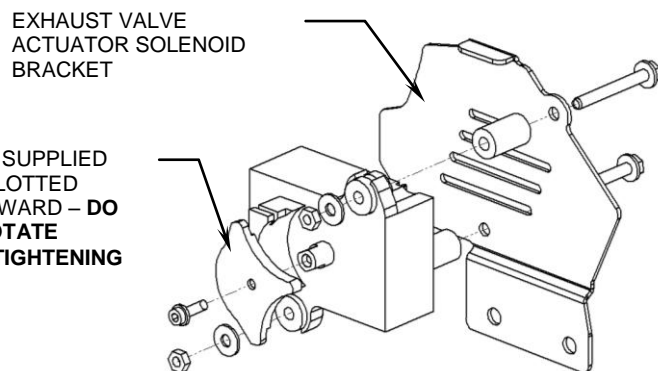

**FIGURE 1: EXHAUST REMOVED FROM M109**
5. The exhaust valve actuator solenoid must now be removed from the stock exhaust-mounting bracket. To perform this, loosen the two nuts securing each cable to the exhaust valve cable-mounting tab, Position A in Figure 1. Make enough slack in the cables so that the ends of the cables' threaded sheath may be disengaged from the end of the mounting tab. Now remove the two M6 hex head bolts securing the solenoid to the stock exhaust bracket. The stock exhaust mounting bracket, headpipes and muffler and exhaust valve solenoid cables will not be used anymore with the your new Cobra Exhaust System.